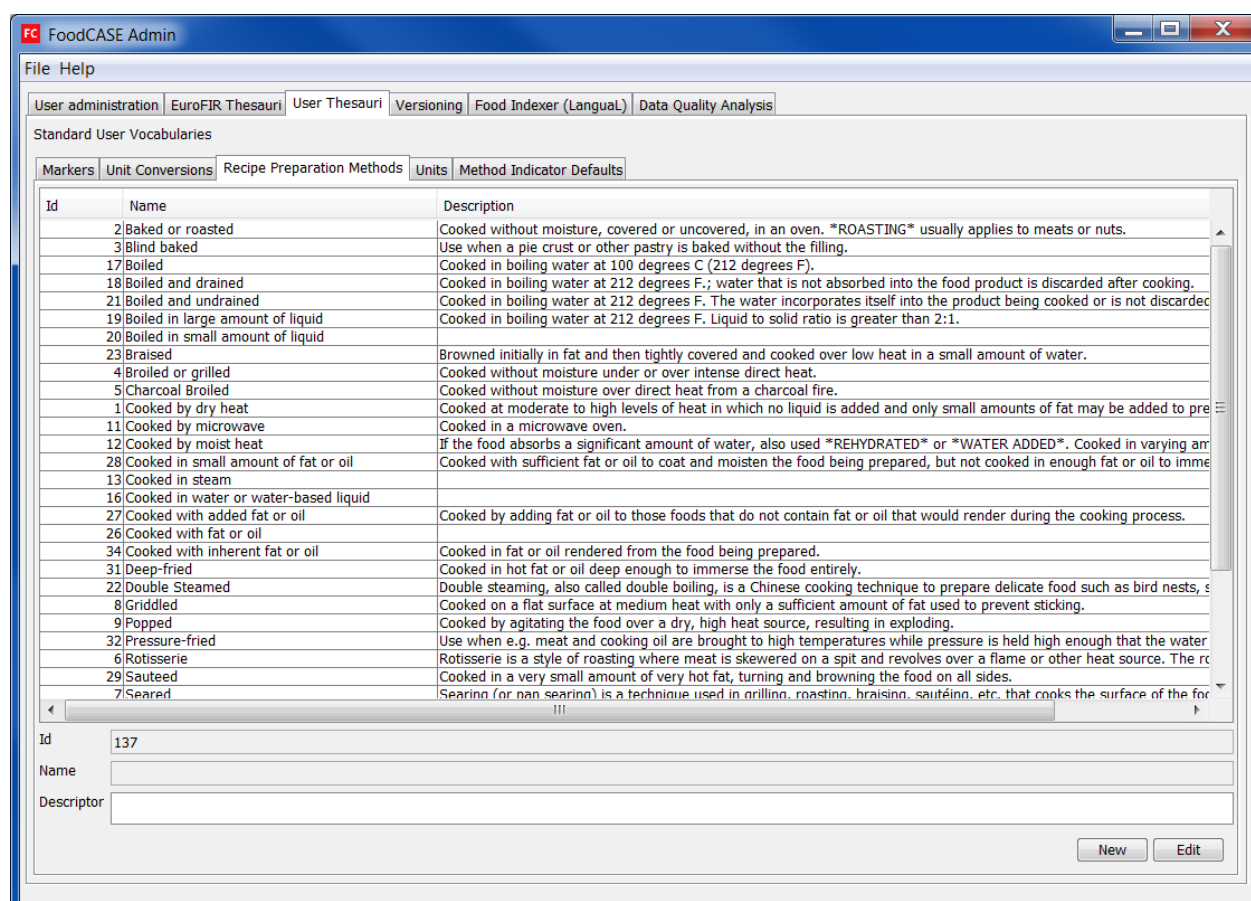

Figure 6.4.3
Recipe Preparation Methods tab (Figure 6.4.3) includes list of cooking methods that can be applied for recipe calculation in Compiler Client.
1. Go to the User Thesauri register and select the Recipe Preparation Methods tab (Figure 6.4.3)
2. Click the **New** button to add a new row in the tab (Figure 6.4.3)